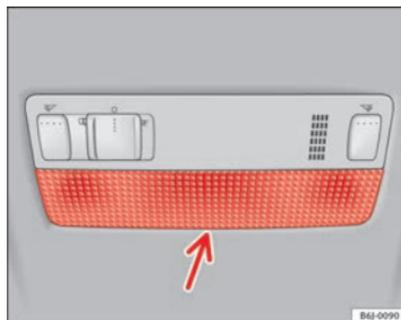

Fig. 165 Front reading light
- Insert a fine screwdriver between the casing and the glass ⇒ fig. 165.